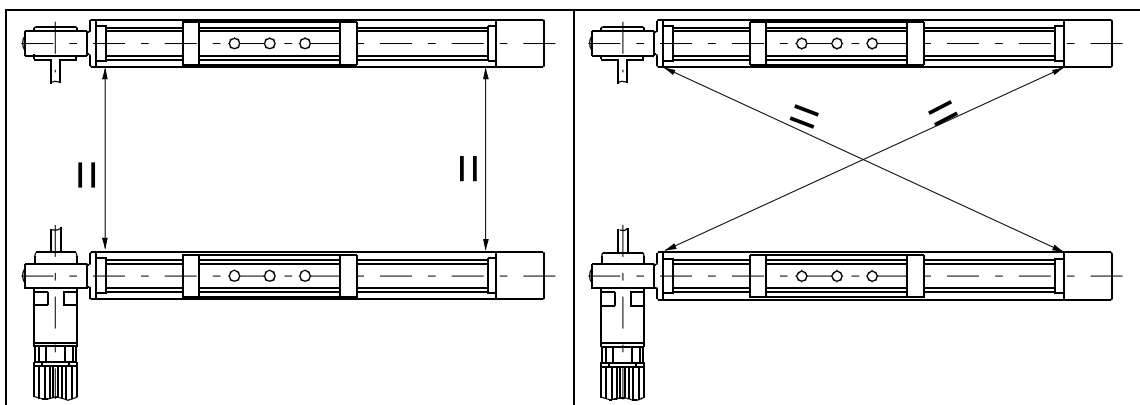

Figure 1: Aligning a dual actuator
5. Measure the parallelism (e.g. by tape measure) (see **Figure 1**).
6. Measure both diagonals to check that it is square (tape measure) (see Figure 1). If necessary, correct the diagonal measurement by parallel movement of the second actuator.